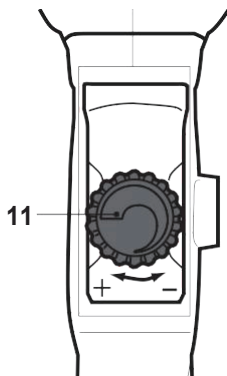

Fig. 10
Limit the maximum speed using the speed dial (11). The variable speed device enables you to select the best speed for a particular application. (Fig. 10).
- > Turn the speed dial (11) in plus direction “+” to increase the maximum speed.
- > Turn the speed dial (11) in minus direction “-” to decrease the maximum speed.